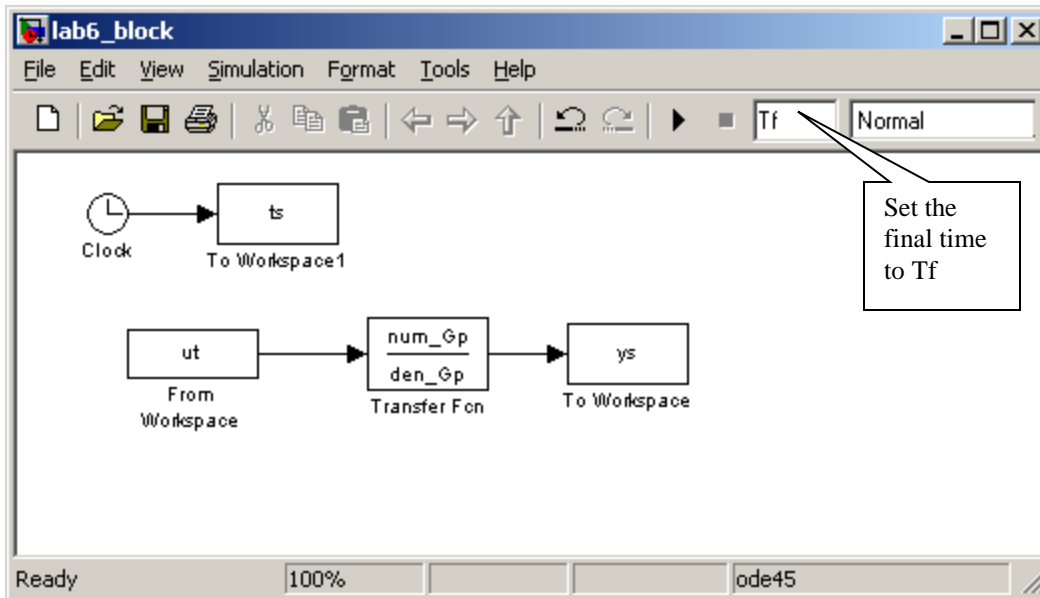

Figure 2. The openloop Simulink file.
12) Construct the model file shown in Figure 2. You will need to look in the **Sources Library** for the *from workspace* block and the clock block, the **Sink Library** for the *to workspace* blocks (be sure to save the data as an *array*, click on these boxes for this choice), and the **Continuous Library** for the *transfer function* block. Click on the transfer function block to enter the numerator as **num_Gp** and the denominator as **den_Gp**. **Be sure to change the final time of the simulation to Tf**. The final time of the simulation defaults to 10 seconds, and it appears in a box near the top of the Simulink model file.